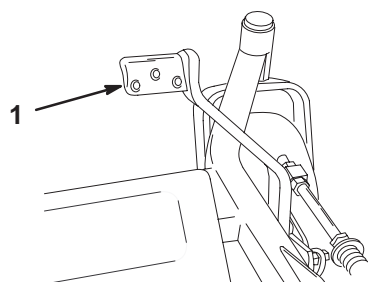

Figure 11
2. Press on lift assist while pulling up on height-of-cut lever (Fig. 11).